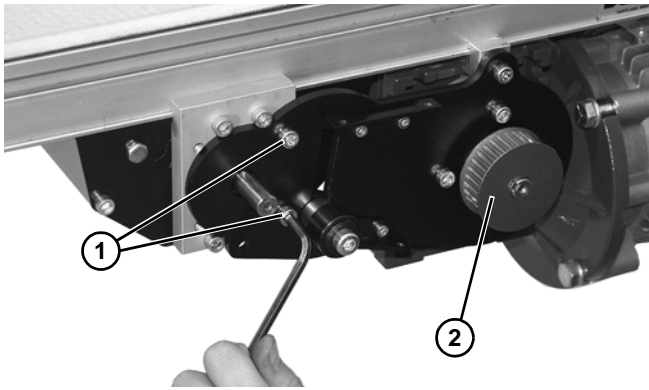

**Figure 3**
2. Install gearmotor and plate (**Figure 3, item 1**) onto conveyor frame channel (**Figure 3, item 2**) with retaining clip assembly (**Figure 3, item 3**) and socket head screw (**Figure 3, item 4**). Secure bottom with two socket head screws (**Figure 3, item 5**). Do not tighten screws at this time.
3. If required, change gearmotor position by removing four (4) screws (**Figure 3, item 6**). Rotate gearmotor to other position and replace screws. Tighten to 103 in-lb (12 Nm).